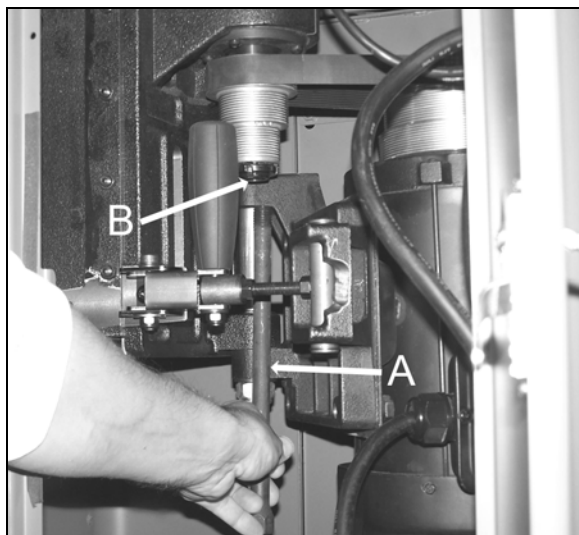

Figure 10
8. Insert the safety draw bolt (A, Figure 10) up into the hole in the bottom of the quill pulley (B, Figure 10). Feed it up into the bottom of the spindle then thread and tighten with the supplied wrench.